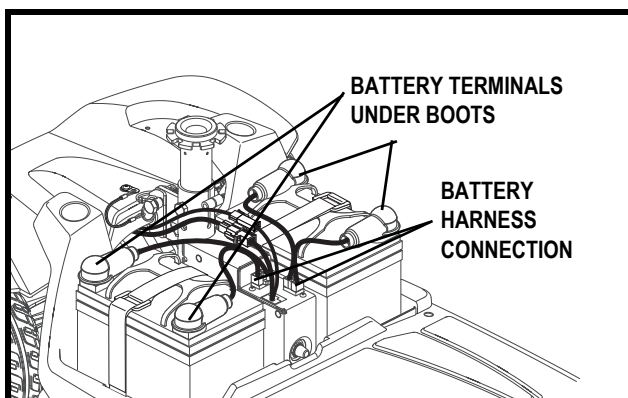

Figure 11. Battery Removal/Installation
3. Disconnect the battery harnesses by depressing the tabs and then pulling them straight up. See figure 11.